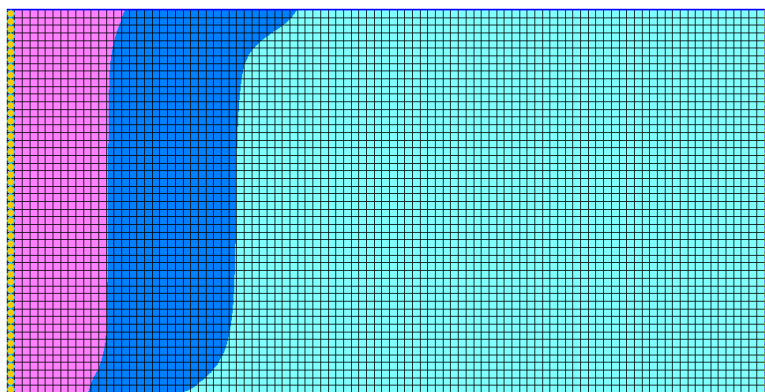

Figure 7 Select the rightmost column of cells in the model
1. Using the **Select Cells**  tool, select all the cells in the rightmost column (Figure 7) by dragging a box around them.